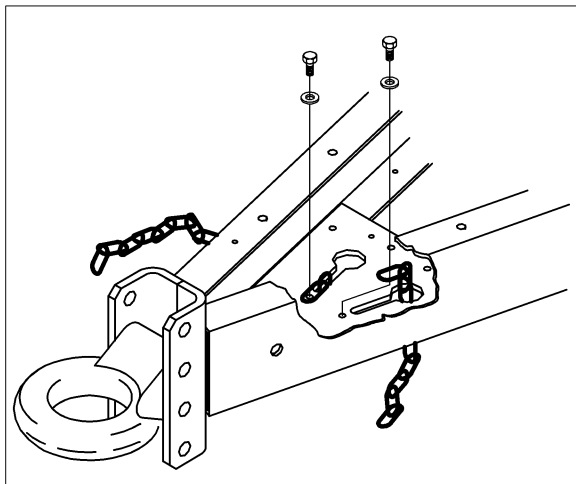

Figure 2
6. Install the four bolts (with pre-applied thread lock) to the four points inside the enclosure and torque to 68 ft. lbs. (9.4 kg-m) (See Figure 2).